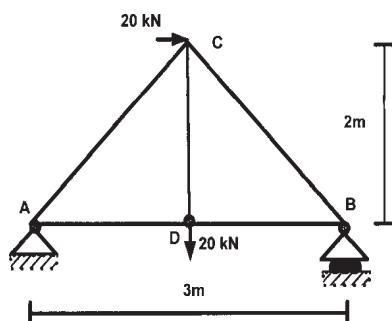

Fig. 2.b
- b) Using Flexibility or Stiffness method, analyze the truss shown in the Fig. 2.b. Find the joint displacements, support reactions, bar forces and bar elongations. Take $AE = 5000 \text{ kN}$ for all the bars. [12]